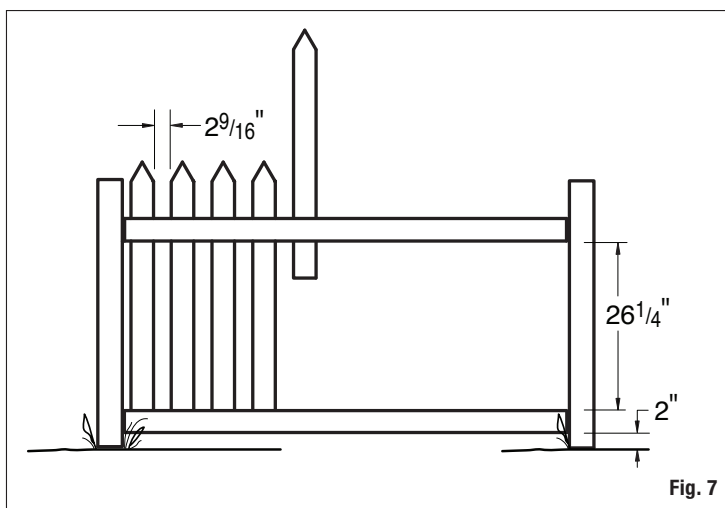

Fig. 7
- With the fence rails in place, start sliding the pickets through the top rail and into the bottom rail (fig. 7). To secure pickets into place we recommended using exterior wood glue to adhere pickets into the bottom rail or securing with exterior fasteners (nails or screws) through the top rail.